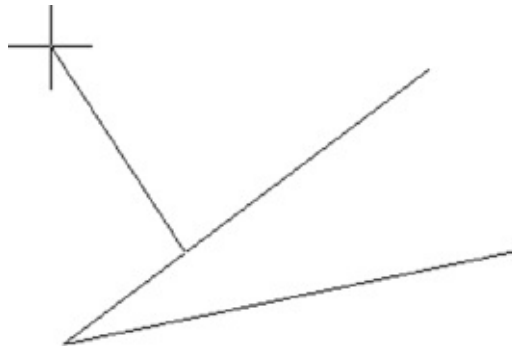

FIGURE 14.33 A line starting at a point that is one-third the distance from the endpoint
6. Press \leftarrow and you see a line start at a point that is one-third the distance from the endpoint (see Figure 14.33).